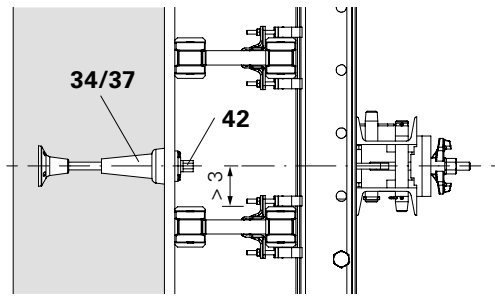

Fig. C1.05
During the formwork planning, attention must be paid that there is sufficient spacing between the bracket axis and the adjacent Formwork Girders GT 24. Otherwise mounting the Leading Anchor (34/37) with the Anchor Positioning Stud M24 (42) is not possible. (Fig. C1.05)